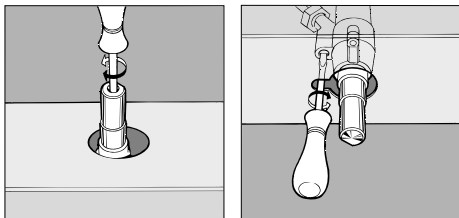

Fig.7
2. Remove the knob (fig.7) and adjust the adjustment screw, which is positioned in or next to the tap pin, until the flame is small but steady.